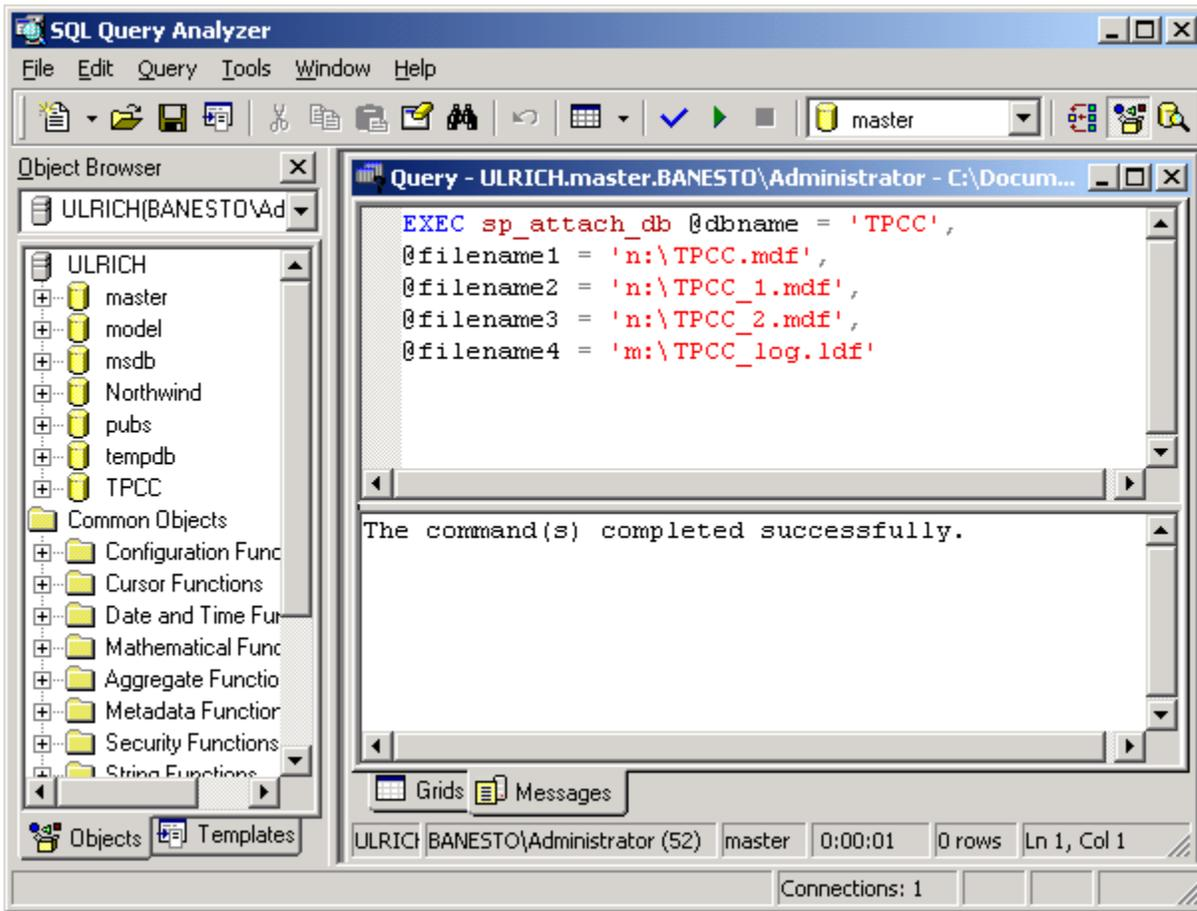

figure 7 – Query Analyzer
11. Use Enterprise Manager to verify that the database is in a loading state and apply the sequential transaction logs. You can use Enterprise Manager, Query Analyzer, or a third party backup application. When using Enterprise Manager or Query Analyzer, be sure to use the No Recovery option for each log backup but the last, and choose the With Recovery option for the last log backup to make the database operational. See Figure 7.